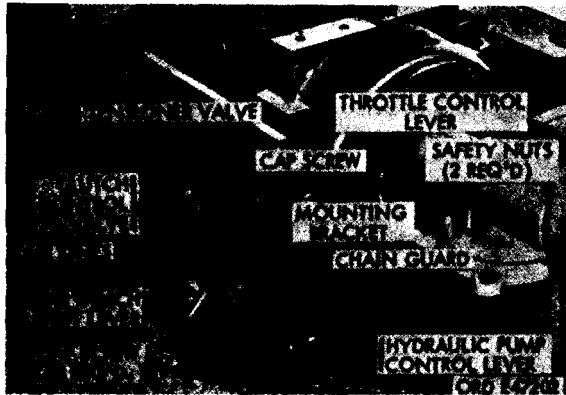

Figure 414. Rear winch controls
r. Power Divider Controls. The power divider controls consist of the rear winch control linkage and hydraulic pump control linkage. The hydraulic pump control linkage is comprised of the hydraulic pump control lever (fig. 414), rear control rod (fig. 415), relay lever (fig. 416), front control rod (K, fig. 417), and governor-valve-control-valve control rod
first layer of cable. The winch is equipped with a cable level wind and a cable tensioner (fig. 414) to assure proper winding of cable. The winch is worm-gear and power must be used when paying out cable. An adjustable automatic brake is provided on the winch drive worm for holding purposes, Controls for operating the winch are mounted on the body directly behind the winch. For operating instructions refer to TM 9-2320-211-10.